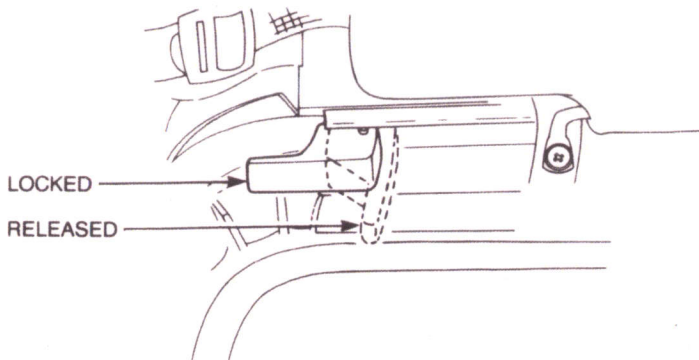

Figure 2-10 Canopy retaining latches
- a. Ensure that the four latches above the windscreen are in the released position (see Fig. 2-10).